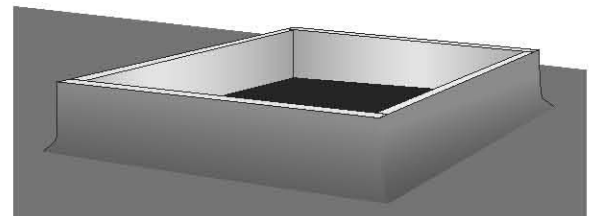

Figure 2
Step 4 Place curb over opening and toe-nail into existing roofing using galvanized nails. If necessary, building blocking to ensure the curb is secure. Wrap curb with roofing material to prevent leaking (see Figure 2).